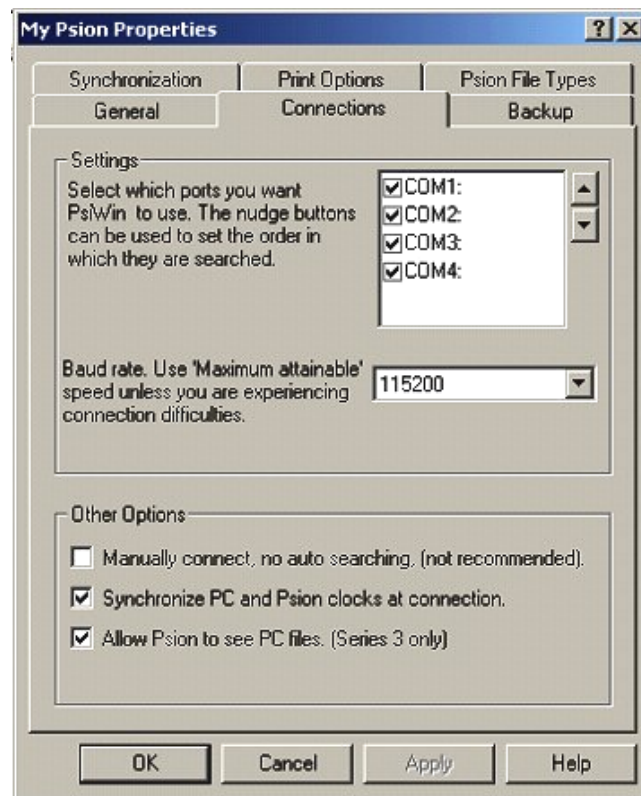

Fig. A1, PSION setup
1. To set up the proper connection chose File and Properties and the following window is shown. Fig. A1.